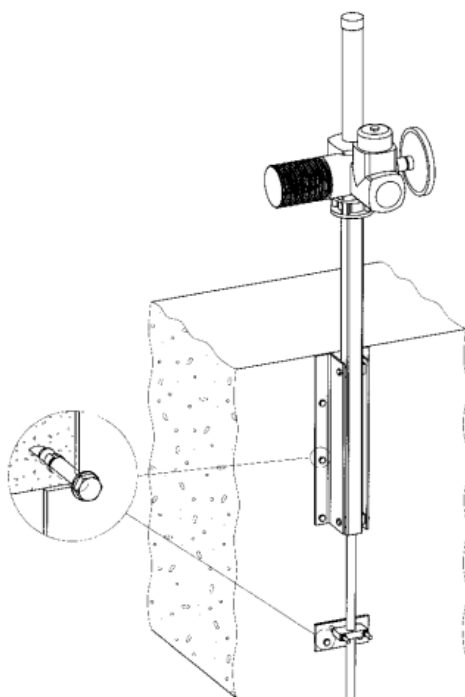

Fig. 12
- Align coupled extension rod with plumb and level acc. Fig. 12.